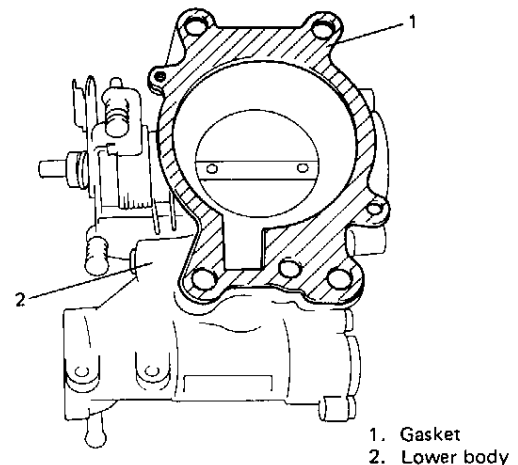

Fig. 4A-119 Installing Gasket
3. Tighten screws indicated by "1" in Fig. 4A-117 to specified torque.